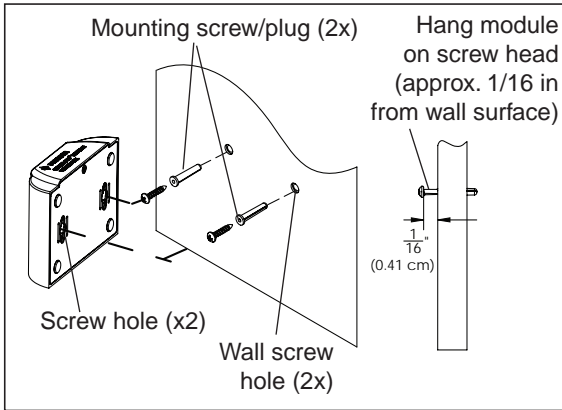
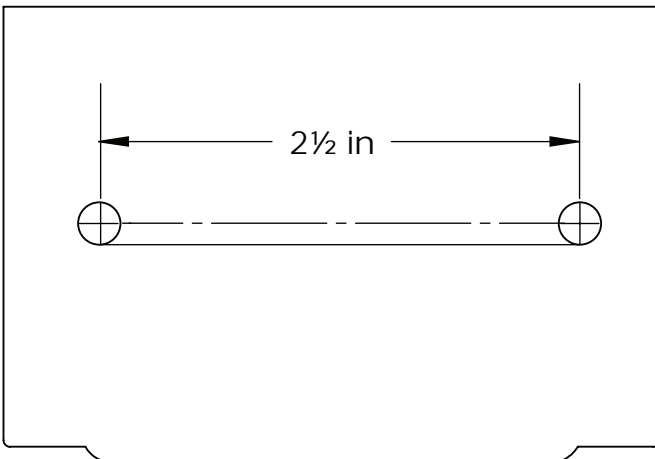

Figure 2: Wall Mount the Indoor Wireless Transceiver
Figure 3: Wall Mount Template for HPW Link Indoor Transceiver
Wall Mount the HPW Indoor Transceiver (Figure 2 and Figure 3)
2. Drill two holes (0.223 in) 2-1/2 inches apart as shown on the template (see Figure 3 on next page).
4. Insert the screws into the wall plug. Don't insert the screws all the way into the wall, leave about 1/16 in for the wireless transceiver to hang on the head of the screws (see Figure 2 on next page).